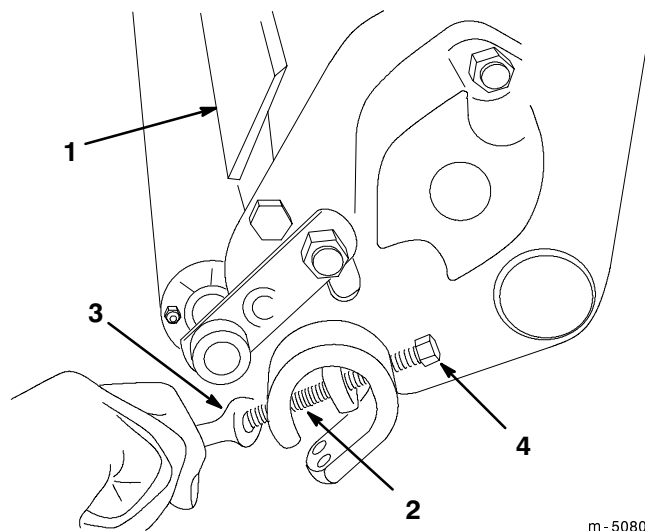
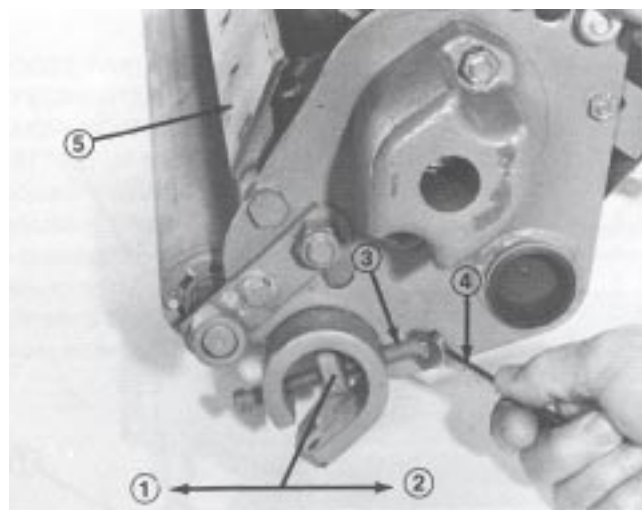

Figure 2
Figure 3
1. Loosen the bottom adjustment screw on each side of the cutting unit (Fig. 2). Then tighten the top adjustment screw on each side of the cutting unit (Fig. 3). This adjustment will position the bedknife closer to the reel blades.
2. After adjusting the bedknife to the reel, make sure that both the top and bottom adjustment screws are secured on both ends of the cutting unit (Fig. 2 and 3).